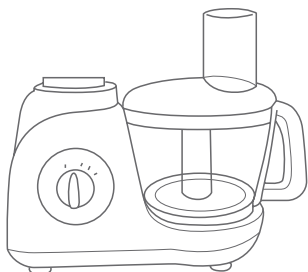

Fig. 10
2. Holding the cover by the feed tube fit the cover by rotating clockwise ensure that the safety interlock has clicked into place. (Fig. 10)